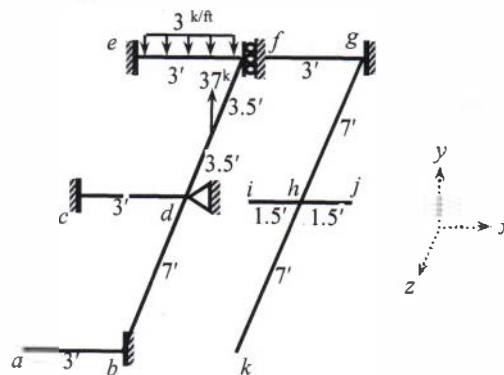

Fig.4
- Use stiffness method to calculate deflection of joint *f* and rotations of joint *d* of the grid system *abcdefghijk* loaded as shown in Fig.4 [Given: $EI = 20 \times 10^3$ k-ft² and $GJ = 5 \times 10^3$ k-ft²].